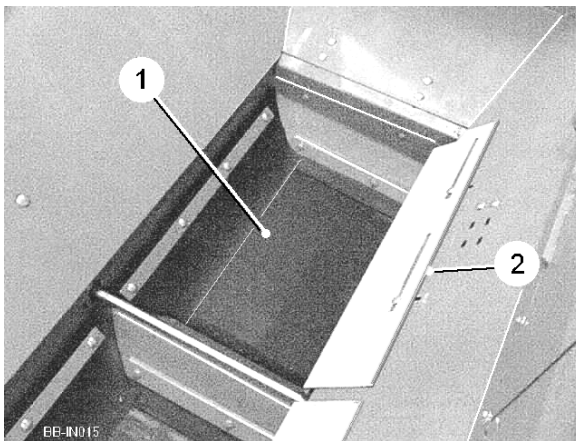
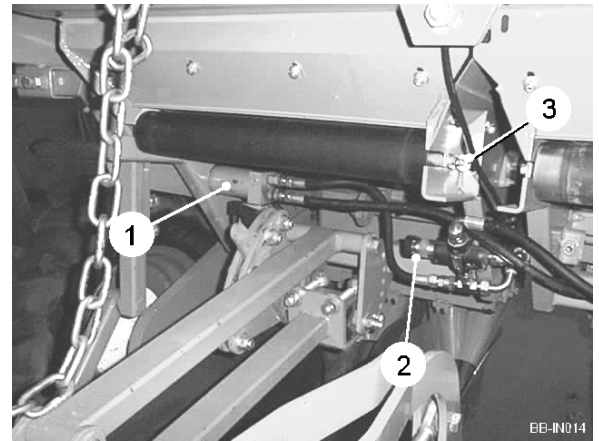

Fig 13
Fig 14
When planting, check that the flow of potatoes from the hopper to the feeding cups is satisfactory and that no 'bridging' occurs. The size of gap between the hopper and the feed belts (item 1, figure 13) can be altered by adjusting the regulator plates (item 2, figure 13).
The feed belts (item 1, figure 13) convey the seed potatoes from the hopper to the feeding pockets. Each feed belt is driven by a hydraulic motor (item 1, figure 14). The speed of the belts can be varied by turning the flow divider knob (item 2, figure 14). The higher the number the quicker the belt will run. To create a positive drive, spring loaded tensioners (item 3, figure 14) maintain constant tension on the belt. To alter the tension turn the adjuster nuts. Ensure both sides are adjusted evenly.